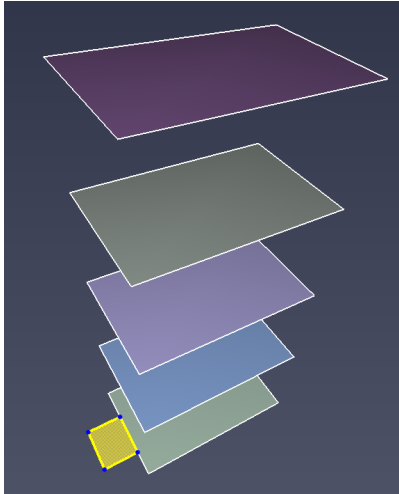

Figure 66. Draw elevator room geometry
1. Draw a room that defines the shape of the elevator, preferably on the discharge floor, see Figure 66.